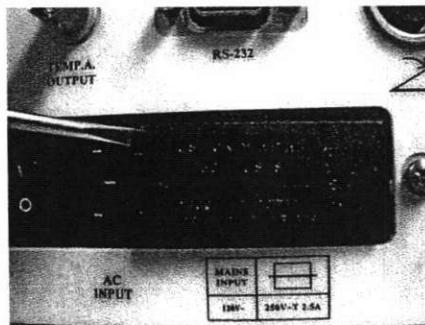

Figure 1
8.2.2. Using a small flat screwdriver, open the fuse cover on the AC Power Inlet Module on the back of the generator as shown in Figure 1.